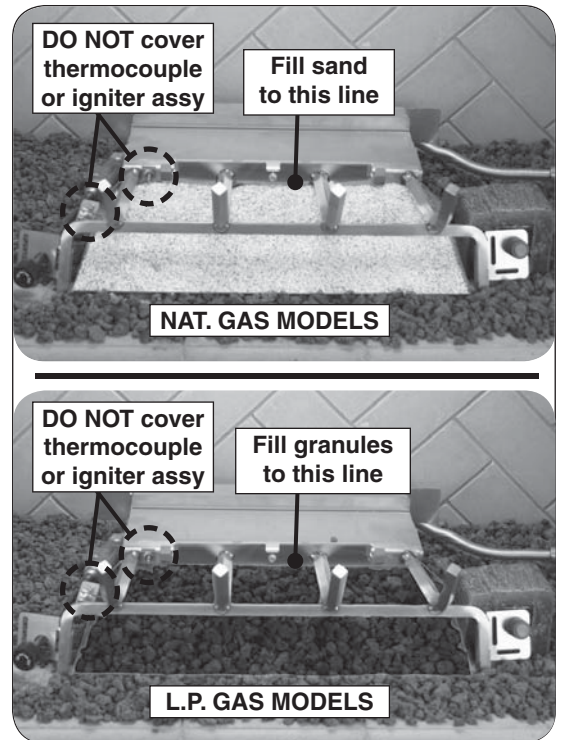

Fig. 15-3 Place sand/lava granules (burner)
1. Fill the burner pan completely with the sand/lava granules (see Fig. 15-3). **DO NOT cover the thermocouple or electrode igniter assembly.**